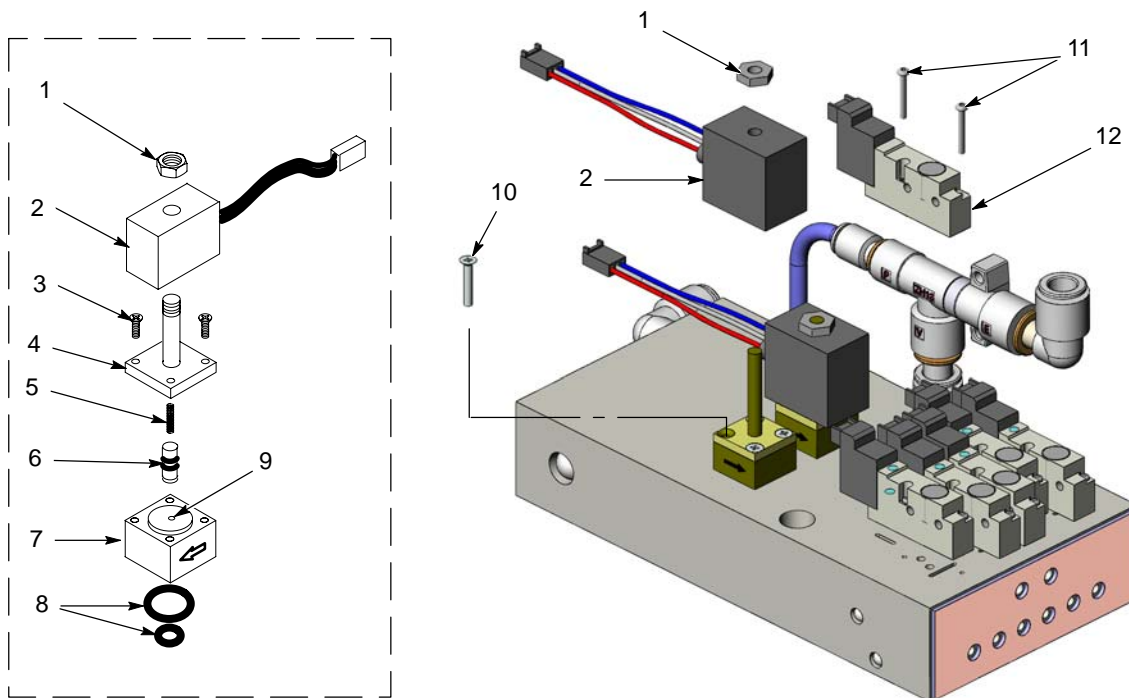

Figure 12 Manifold Repair
1. See Figure 12. Remove the nut (1) and coil (2) from the flow control valve.
2. Remove the two long screws (10) to remove the flow control valve from the manifold.
3. Remove the two short screws (3), then remove the valve stem (4) from the valve body (7).
4. Remove the valve cartridge (6) and spring (5) from the stem.
5. Clean the cartridge seat and seals, and the orifice (9) in the valve body. Use low-pressure, compressed air. Do not use sharp metal tools to clean the cartridge or valve body.
See Figure 12. Remove the valve by removing the nut (1), coil (2), and long screws (10).
See Figure 12. To remove the solenoid valves, remove the two screws (11) in the valve body and lift the solenoid valve (12) off the manifold.